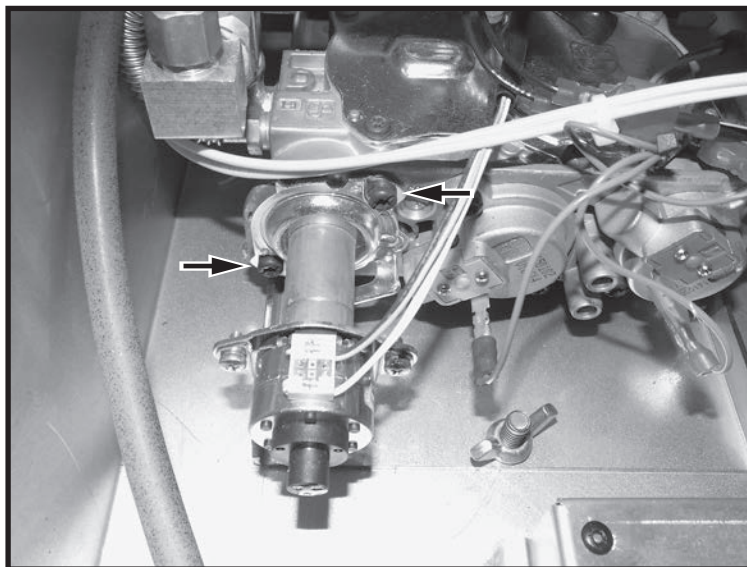
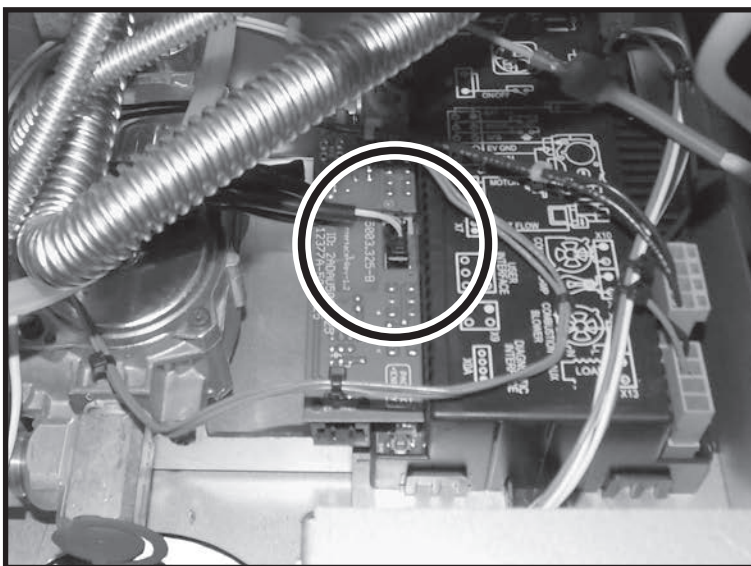

Figure 44: Stepper screws access.
Figure 45: Stepper connector location.
4. Locate the stepper (Figure 44) and follow its wires back to its electrical connection and disconnect (Figure 45).